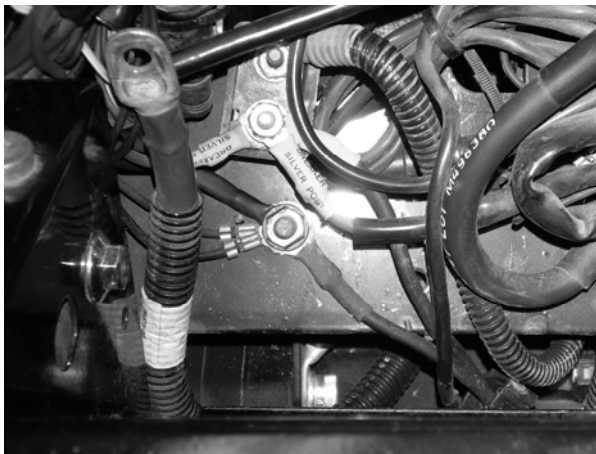

Figure 5. Ground Terminal Location
11. See Figure 5. Secure the 1/4" ground eyelet (black wire) under ground point in front of the battery box (7/16" nut).